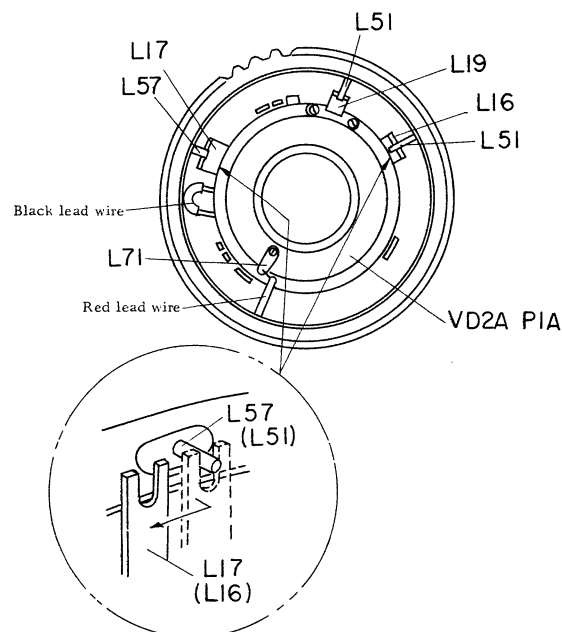

Fig. 2
C. The black color lead wire connected to the synchronizer is provided with vinyl tube insulator. Move it to one side, and unsolder. Unsolder and disconnect the red color lead wire from the lag plate (L71). Next, disconnect the diaphragm lever (L16) and M-X changeover lever (L17) from the connecting pins (L51) and (L57). Fig. 2